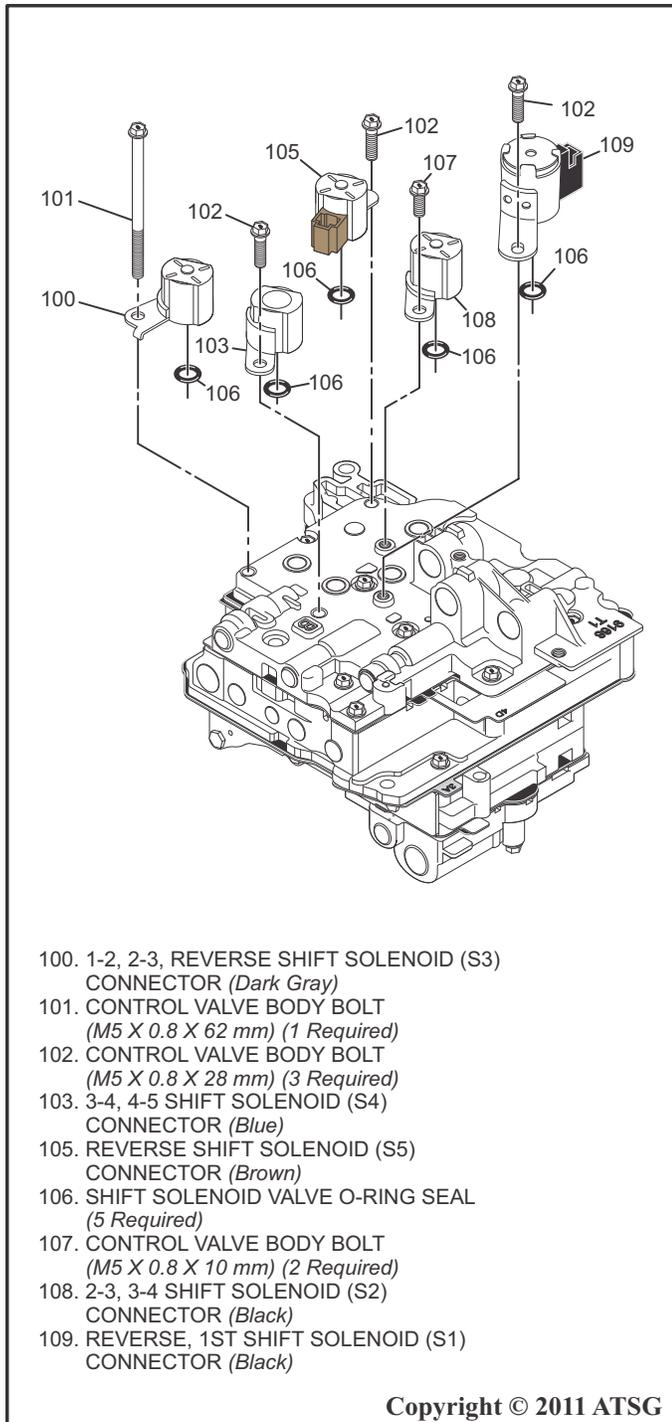

Figure 176
56. Install new o-rings on each of the five shift solenoids. Coat the o-rings with a small amount of ATF or Trans-Jel® then install each solenoid into the front control valve body as shown in Figure 176.